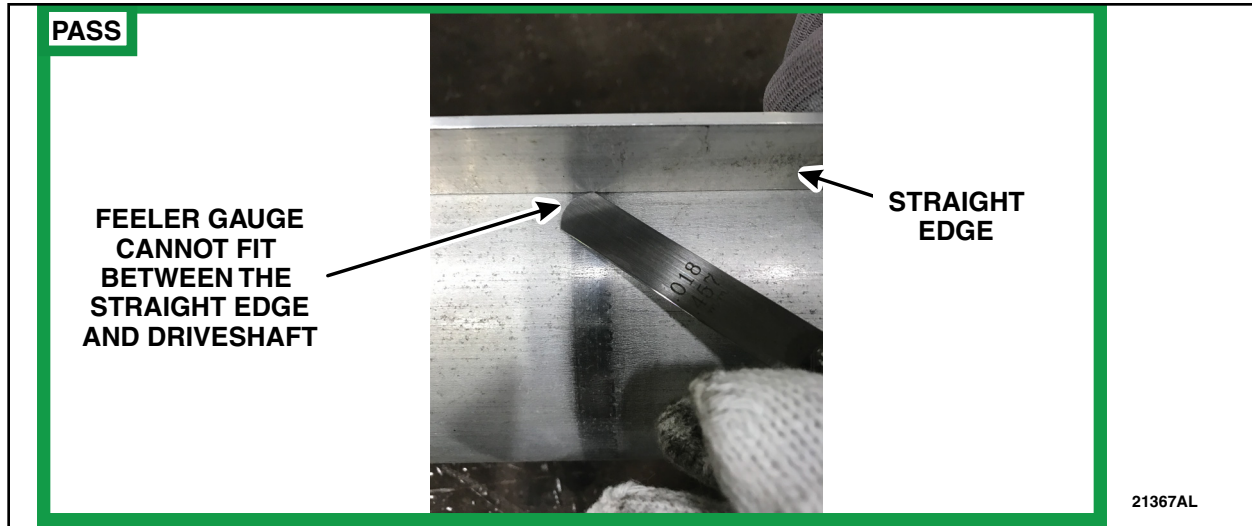

FIGURE 4
4. Place a straight edge along the driveshaft over the wear mark and attempt to fit a 0.018in (0.45mm) feeler gauge between the flat edge and the wear mark. Can the feeler gauge fit between the straight edge and anywhere along the wear mark? See Figures 4 and 5.